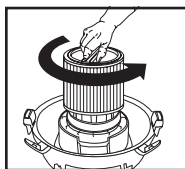

FIGURE 12
18. To remove the filter for cleaning, again hold the tank cover and turn the filter retainer counter-clockwise to loosen and remove. **FIGURE 12.**